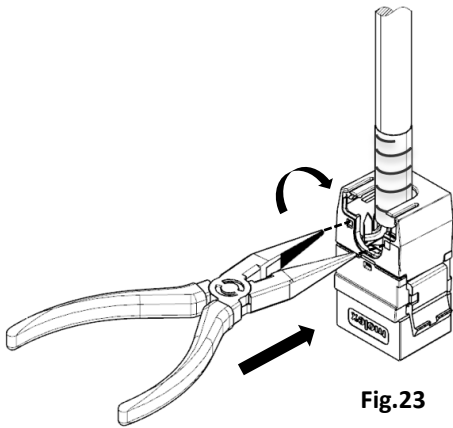

Fig.23
4.5 Insert needle Nose Plier into the Rear Housing slots and push both latches at a time and tilt the Rear Housing as shown (Fig.23) and hold in that position and rotate the Jack 180° (Fig.24). follow same step on other side (Fig.25).